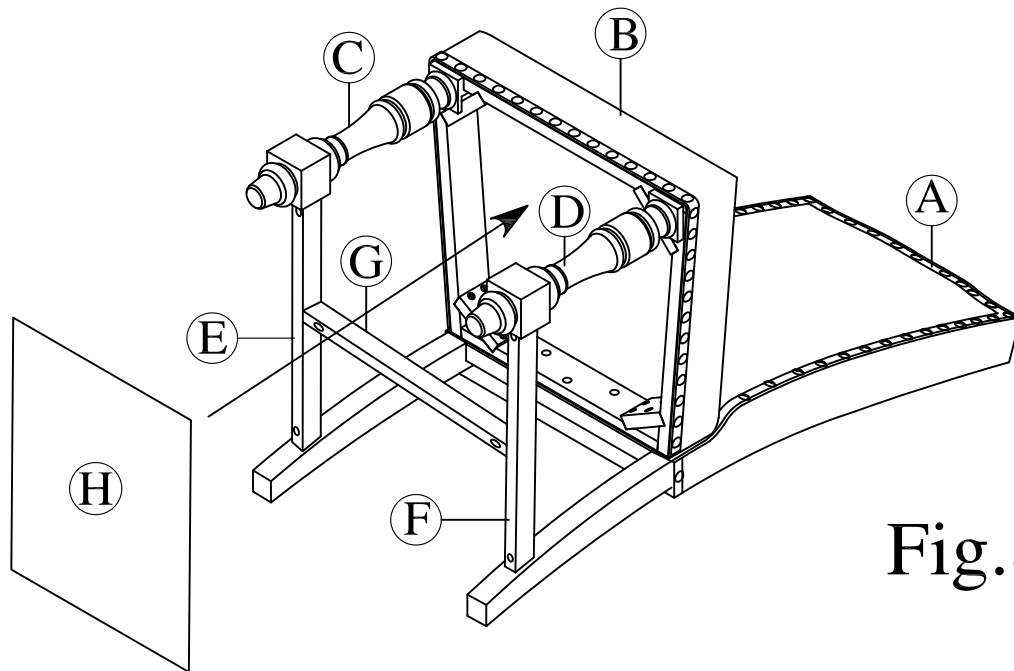

Fig.8
Step 8: Attach Velcro (H) under Cushion Seat (B) as shown in Fig.8